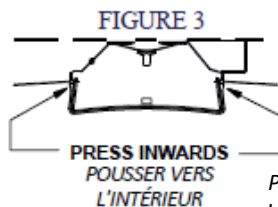

FIGURE 3
- 1. AT ONE END OF THE LENS PRESS INWARD AS SHOWN TO CLEAR RETAINER TABS. (SEE FIGURE 3)**
À UNE EXTRÉMITÉ DE LA LENTILLE, APPUYEZ SUR L'INTÉRIEUR COMME INDiqué POUR EFFACER LES TABS DE RÉTENTION. (VOIR FIGURE 3)
- 1. PLACE THE LENS OVER THE LED BOARDS AND PRESS INWARD ON ONE END OF THE LENS AS SHOWN IN FIGURE 3. THIS WILL ALLOW THE LENS TO BE MOVED TO ONE END AS OUTLINED IN STEP 2.**
PLACEZ LA LENTILLE SUR LES CARTES LED ET APPUYEZ À L'INTÉRIEUR À UNE EXTRÉMITÉ DE LA LENTILLE COMME INDiqué À LA FIGURE 3. CELA PERMETTRA DE DÉPLACER LA LENTILLE À UNE FIN COMME EXPOSÉ À L'ÉTAPE 2